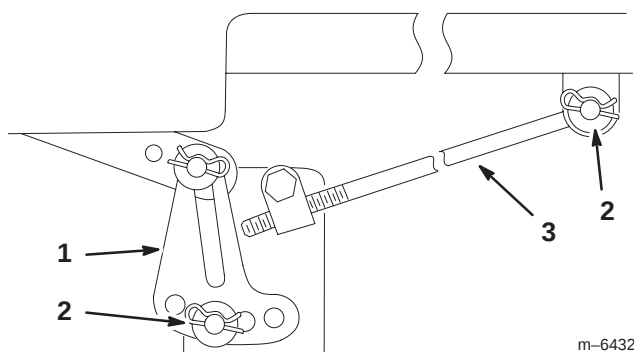

Figure 46
Note: Before removing the mower, make a note for which holes are used in the leveling brackets (Fig. 46).
5. Remove the hairpin cotter and washer from the adjusting rod (Fig. 46) on each side of the mower.
6. Remove the hairpin cotter and washer at the mower leveling brackets (Fig. 46) on each side of the mower. Note which hole the leveling bracket is mounted in for future installation. Slide the brackets off of the mounting pin.
5. Attach the adjusting rod to the tractor with the washer and hairpin cotter (Fig. 46) on each side of the mower.
6. Slide the leveling brackets onto the mounting pins and secure them with the washers and hairpin cotters (Fig. 46).